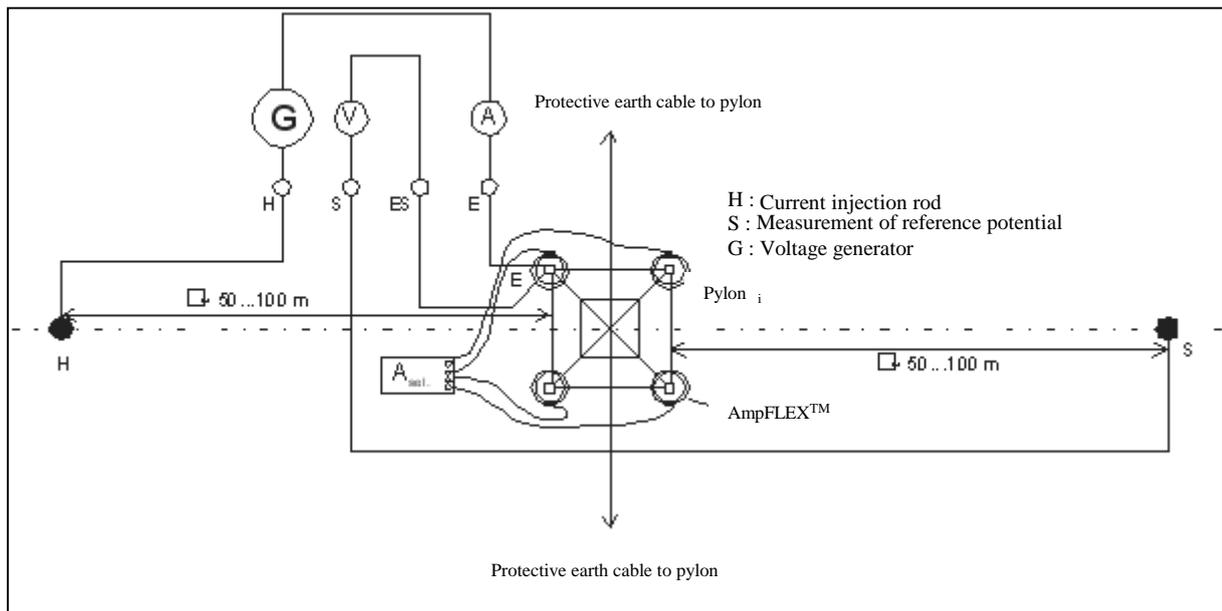

Fig. 2: Diagram of measurement without disconnecting the earth wire or the earthing strips
Usually, you either have to remove the pylon earth wire (protective cable) or disconnect the earth connection located at the foot of each pylon (cf. Fig.2).
The diagram above (Fig. 2) shows the C.A 6472's generator (G) which injects the current into the pylon via terminal "E". During this operation, part of the current passes through the earth wire and the pylon earthing systems connected to it. The current loop is connected to the earth and to the auxiliary earthing system (H). The sum of the residual currents in the earthing system is measured by the C.A 6474 (A_{sel.}) with AmpFLEX™ flexible sensors connected to the four pylon footings. The C.A 6474 is connected to the C.A 6472 tester. The voltage (V) is measured between the "ES" terminal on the pylon and the probe "S". The current and voltage measured in this way can then be used to calculate the earth impedance.